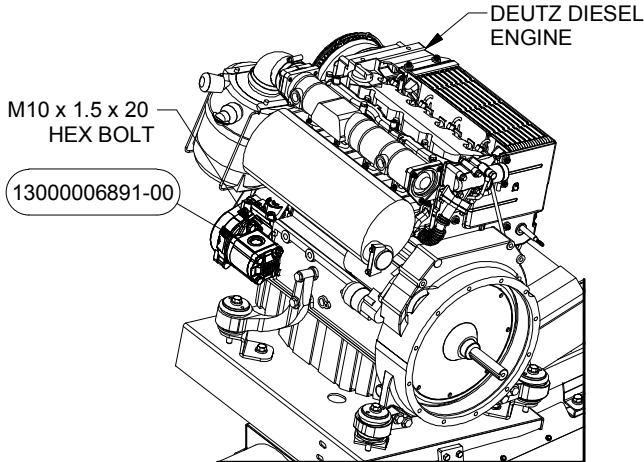

FIGURE 7
7. Step 7 applies to the Deutz Engine only. Hydraulic Pump PN# 6891 to the Engine using Metric Hex Bolts provided in Bolt Bag PN# 6955 in the Deutz Hardware Box PN# 6918. The Hydraulic Pump can be found in the Hydraulic Kit. For details, see Figure 7.